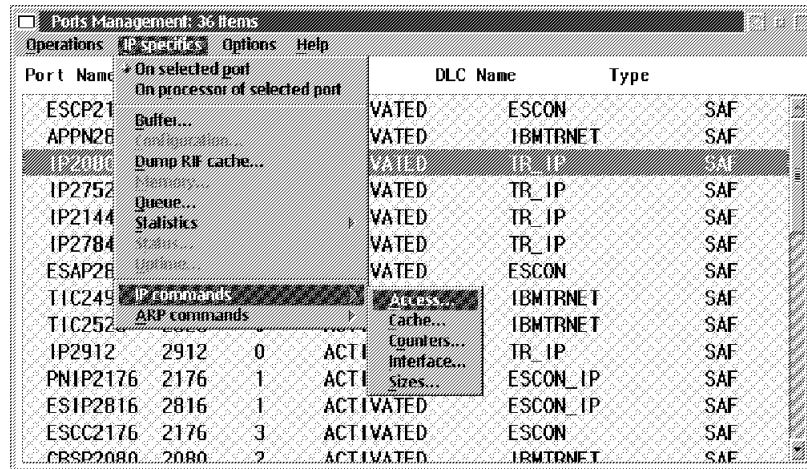

Figure 15-7. Example IP Port Management Menus
- c. Select the level (port or processor) of the command(s) that you want to use by selecting either one of the first two **IP specifics** menu options (see Figure 15-7 on page 15-15):